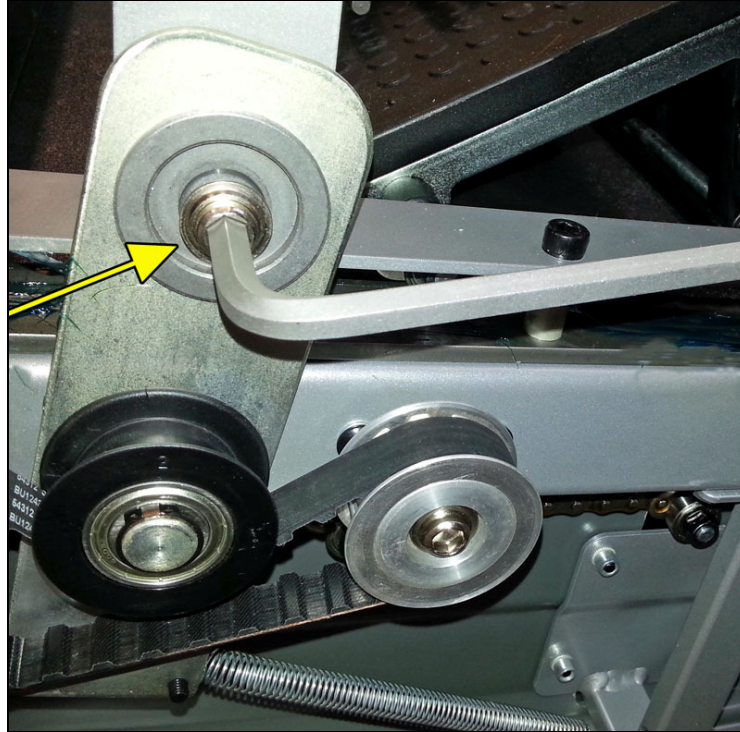

Fig. 2
2. Once the mechanical parts are exposed, loosen the bracket (user left side) that holds the belt to the pulley using an 8mm hex key (Fig. 2)